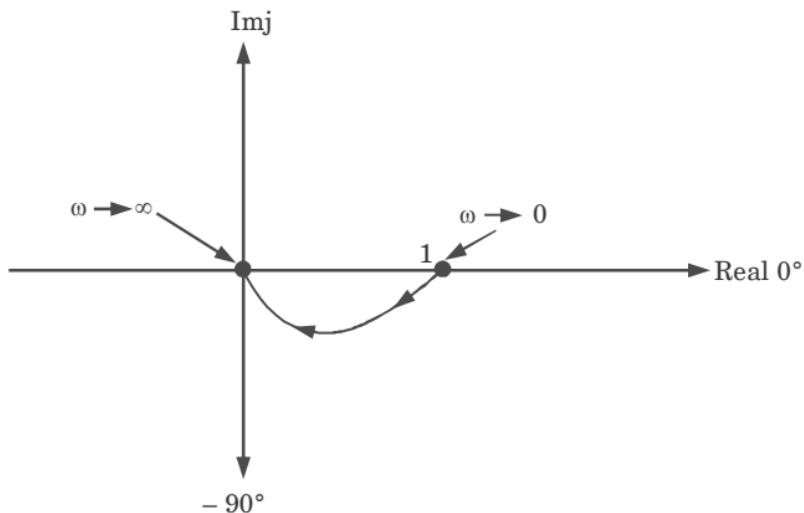

Fig. 1.
4. The corresponding polar plot is shown in Fig. 1.